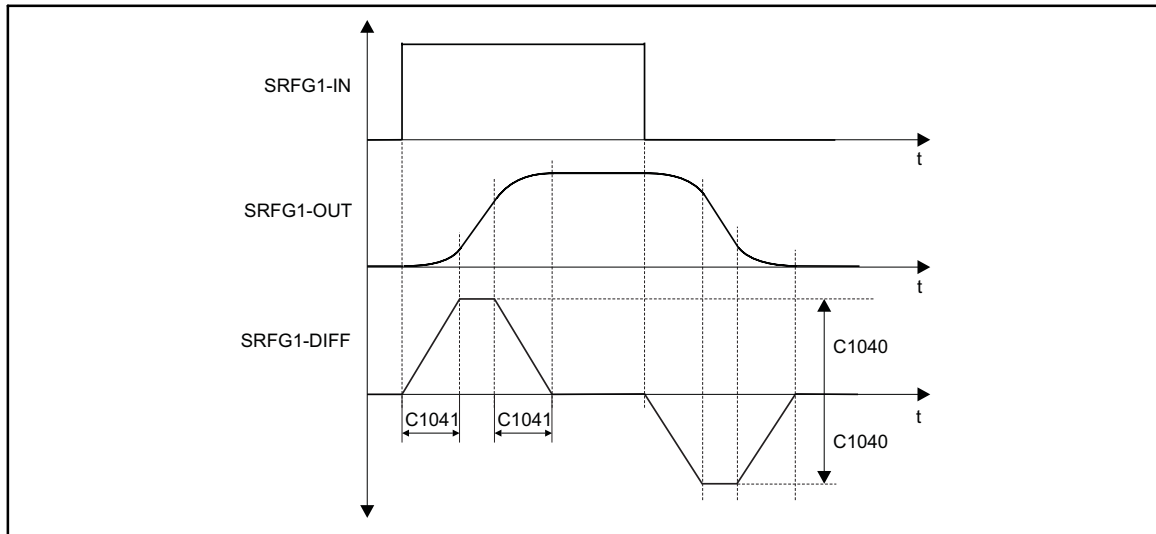

Fig. 2-136 Characteristic of the ramp function generator
- The acceleration characteristic (signal at SRFG1-DIFF) in Fig. 2-136 shows the linear rising or falling of the signal during the rounding time (C1041).